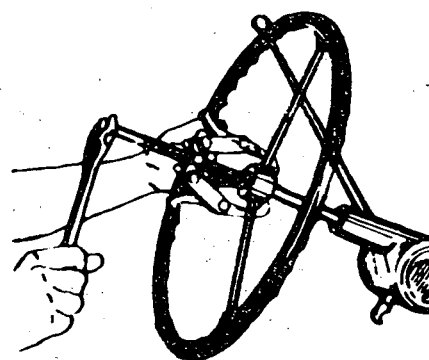

Fig. 1
- b) Set the extractor and remove the steering wheel (Fig. 1).